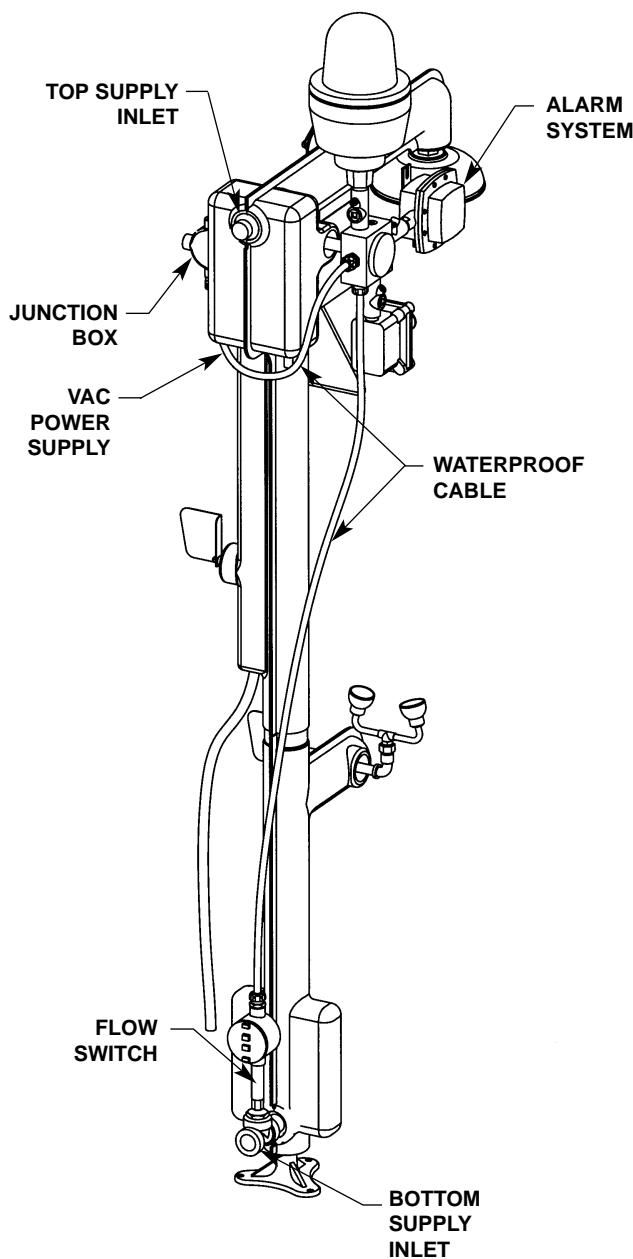
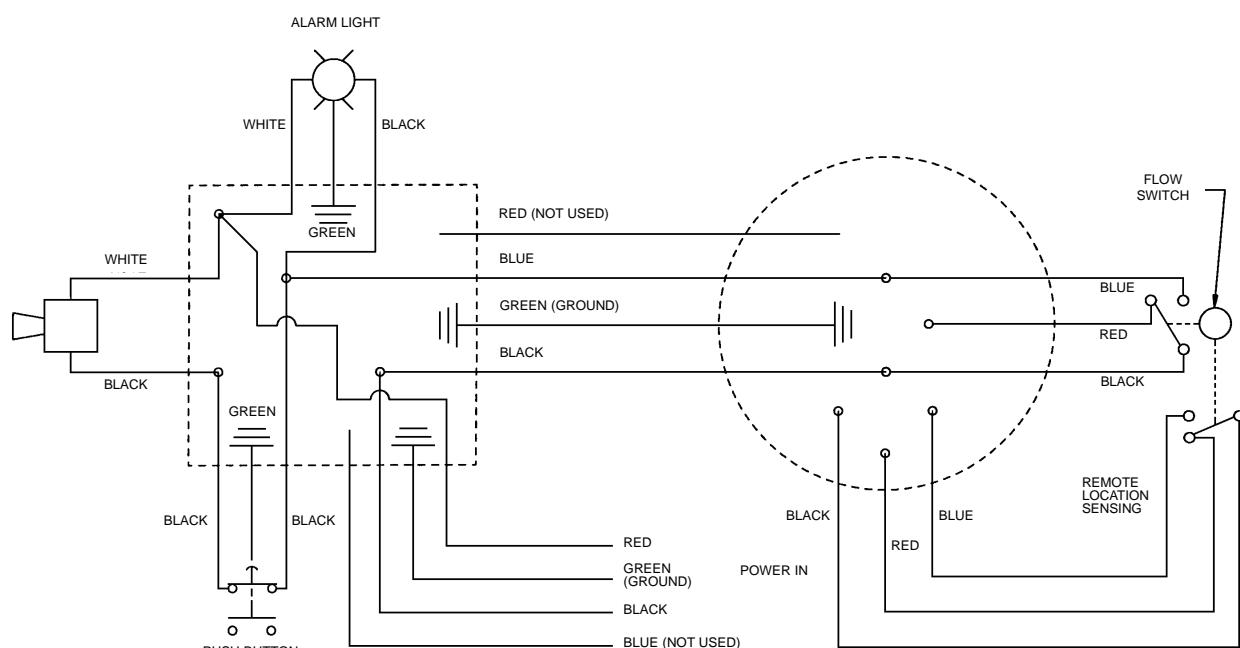

Figure 1
Figure 2
*NOTE: Because the flow switch will attach to the mounted alarm via a 7-foot waterproof cable, the installer must keep the location for mounting the alarm in mind when choosing the flow switch location (see Figure 1).*
1. Choose a location for mounting the flow switch in a horizontal run of the water supply line. The inlet and outlet ports of the flow switch must be a minimum of 6 inches from any tees or elbows in the water supply line (see Figure 1).
- The alarm may be mounted directly to the drench shower piping using the supplied mounting hardware (see Figure 1 on page 4).
1. Connect the flow switch to the alarm by installing a conduit connector to the end of the 7-foot waterproof cable and into the flow switch junction box (see Figure 1 on page 4 and Figure 2 below).